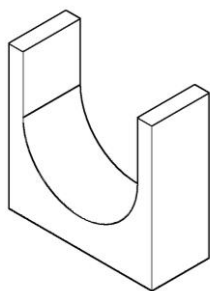

Fig. 2: IGT U-form Delamination viewer
- 2.2. Assess the test strip and mark the point where delamination begins. See fig. 2.